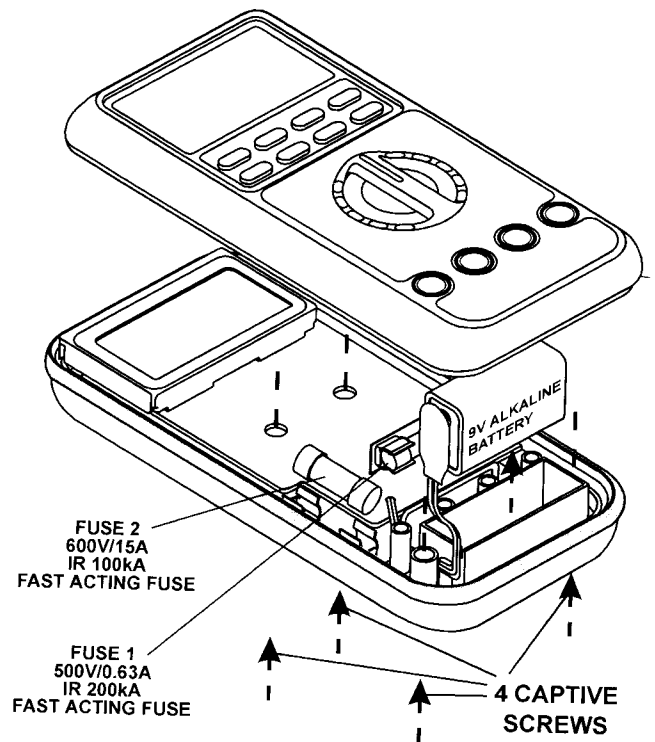

FIG 22. CHANGING BATTERY & FUSES
- 3) Loosen the four captive screws from the case bottom and turn the case over, see **FIG 22**